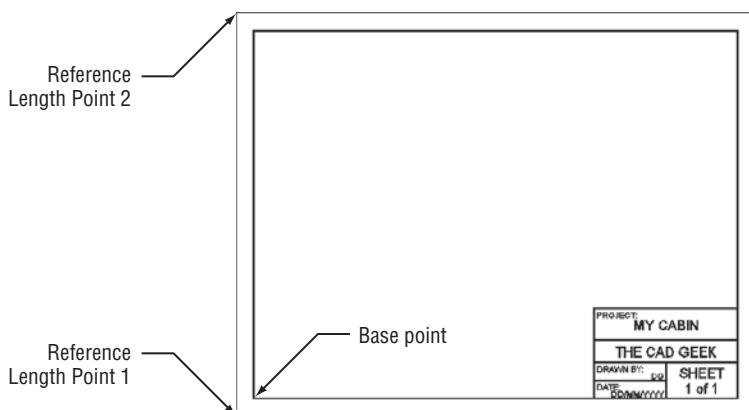

FIGURE 14.3 Specifying a reference length using the SCALE command
11. Instead of entering a scale factor, press R. to choose the Reference option. Then pick the lower-right corner of the outer boundary, and then the upper-right corner of the outer boundary (see Figure 14.3).